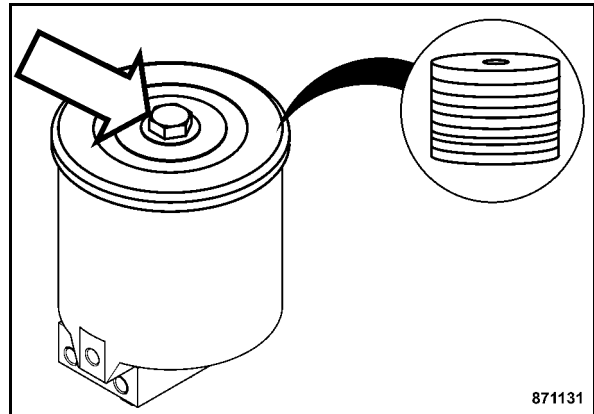

Fig. 154
- Unscrew the fastening screws (Fig. 154) and take off the cover.